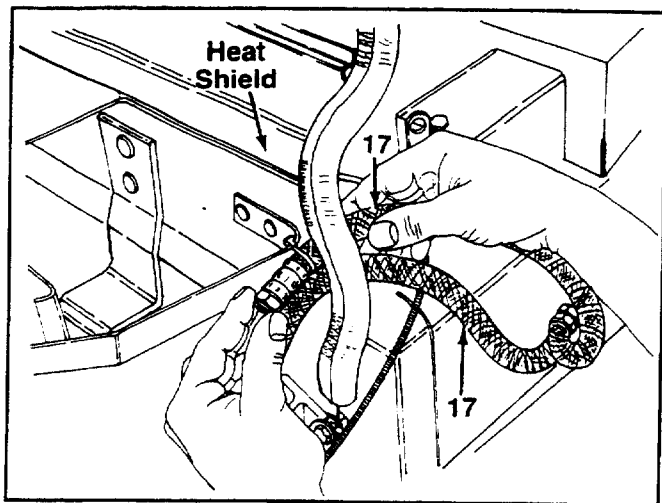

FIGURE 13.
16. Slide the two oil lines through the heat shield. See figure 13. Oil lines will stay with engine.